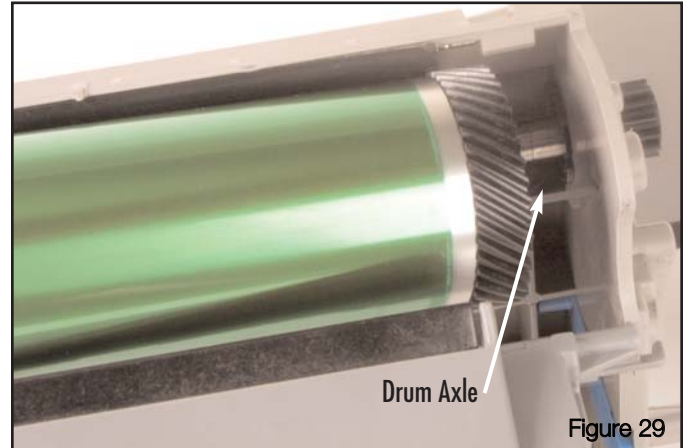

Figure 29
- a. Replace drum and insert the gear side axle of the drum in to the drive side drum housing (Figure 29).